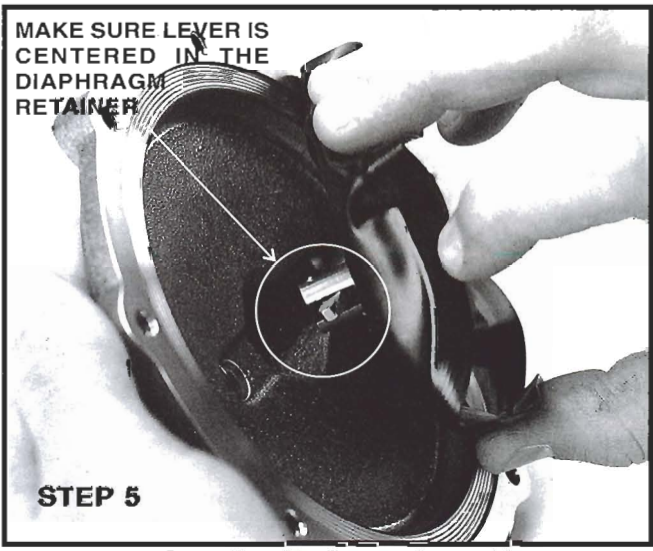

Figure 26. Slide the Diaphragm Assembly onto the Lever.
5. Slide the diaphragm assembly onto the lever as shown below. The lever must rest on the pivot pin. Rotate the Diaphragm Assembly to locate the lever in the **center** of the Diaphragm Retainer. The lever must be centered to prevent binding. No lubrication on the pivot pin is necessary (refer to Figure 26).